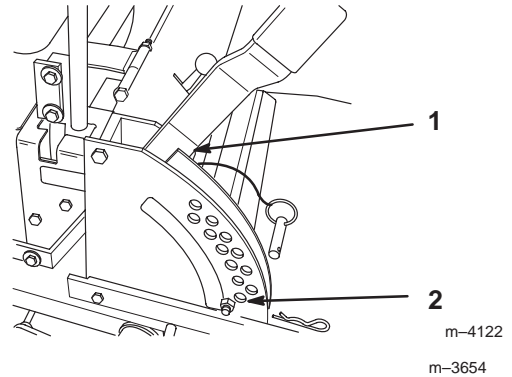
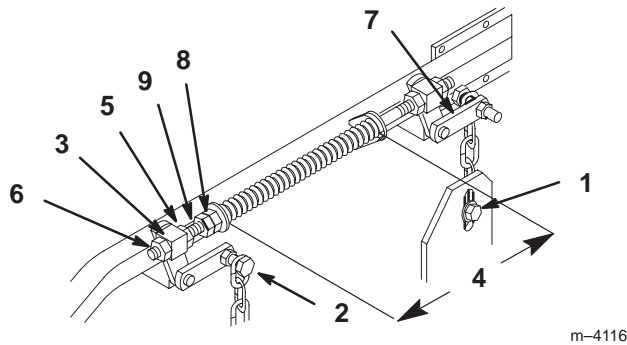

Figure 53
Figure 54
4. Raise the deck to the transport position (Fig. 53). Take force off of the two large deck lift springs by loosening the jam nut and front spring nut, in front of each spring, as far as possible (Fig. 54).
5. Place 2 thick blocks (1-3/8 in. [35 mm]) under the rear left and right lower edge of the mower. Place 1 block (1-3/4 in. [44 mm]) under the front center lower edge of the mower, not under the anti-scalp roller brackets. Lower the mower to the 1-1/2 in. (38 mm) height-of-cut position (Fig. 53).
6. Loosen the bottom chain bolt in the slot at the rear of the deck. Repeat for the opposite side (Fig. 54).
7. Loosen the front and rear locking nut on either side of the front swivel. Loosen until the front chains are loose and the deck is supported by blocks. Repeat for the opposite side (Fig. 54).
8. When the hardware is loosened, the remaining tension in the large support springs will tend to rotate the deck lift handle up, out of the 1-1/2 in. (38 mm) position. Press down on the rear deck support arm to firmly return the deck lift handle to the 1-1/2 in. (38 mm) position (Fig. 54).
9. While continuing to press down on the rear deck support arm, take the slack out of the rear chain and tighten the hardware at the bottom (Fig. 54). Downward pressure may now be released. Repeat for the opposite side.
14. Raise the deck lift lever to the transport position (Fig. 53).
15. Adjust the compression springs by turning the front spring nuts so that the distance between the two large washers is 10-1/4 in. (260 mm); then tighten the jam nut (Fig. 54).